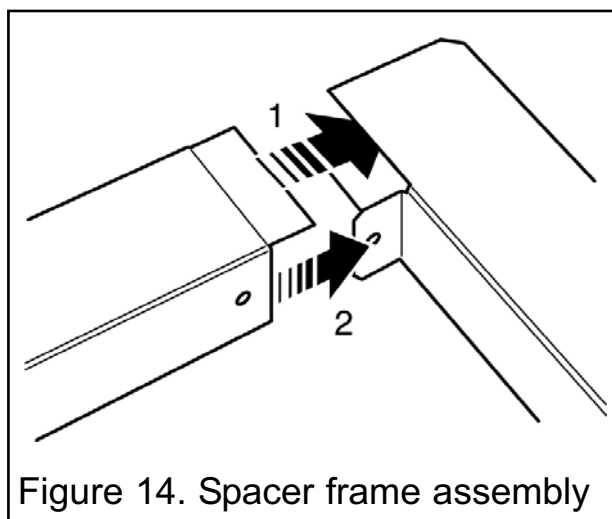

Figure 14. Spacer frame assembly
9. The sides have a stepped top face. These must be located on the inside the top piece (See point 1 of figure 14). The tabs on the top piece must locate on the inside of the side pieces (See point 2 of figure 14). Secure the two side pieces to the top piece using two self tapping screws supplied. Locate the screws from inside the 'U' channel.